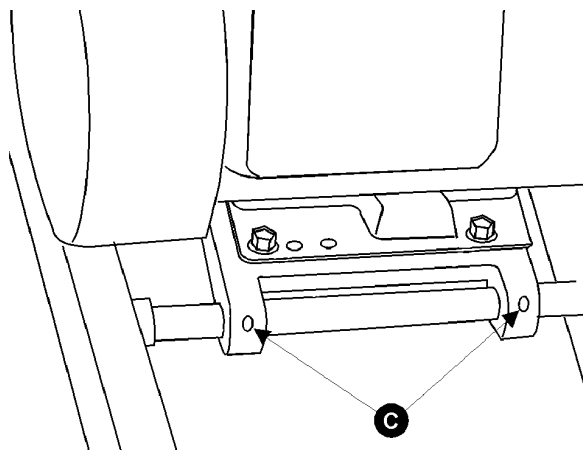

Figure 9
- Using a straight edge, align the motor pulley (A, Fig. 8 ) and cutterhead pulley (B, Fig. 8). The motor plate can be moved for alignment by loosening the set screws (C, Fig. 9) in the motor plate.